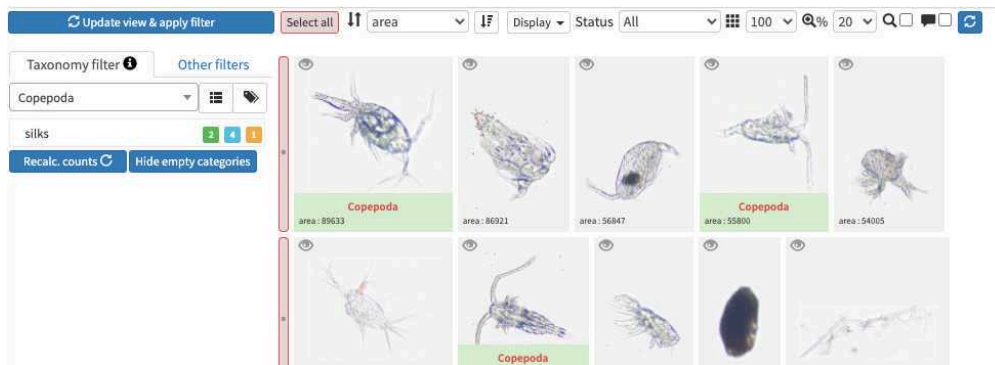

Figure 7: Once validated the name appears in red below the images.
2. Locate your file on the ecotaxa ftp folders and import it (only works for one zip file at a time for now; fig.7).